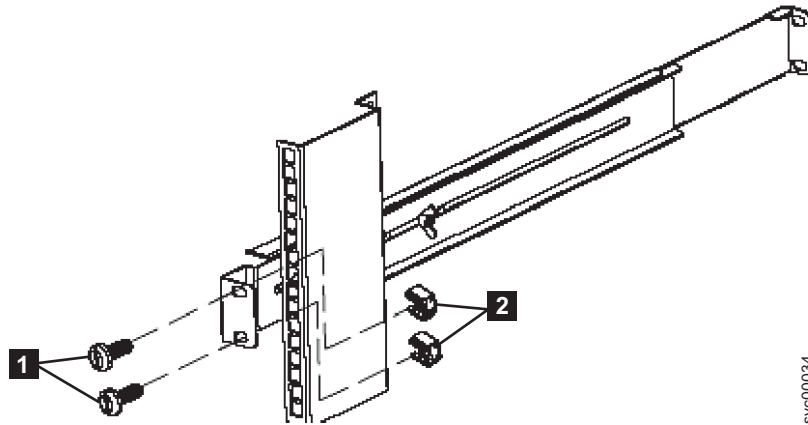

Figure 27. Securing the rear rail on the 2145 UPS-1U
6. Using two M6 × 10 screws ( **1** in Figure 27) and two clip nuts ( **2** ), attach the rail to the rear of the rack.